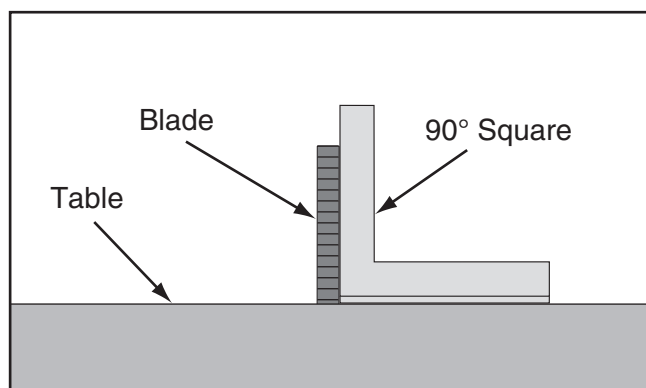

Figure 102. Checking blade at 90°.
3. Place 90° square against table and blade so it contacts blade evenly from bottom to top, as shown in **Figure 102**. Make sure blade tooth does not obstruct placement of square.
6. Place square against blade, as shown in **Figure 102**, then adjust blade until it is perfectly square to table.